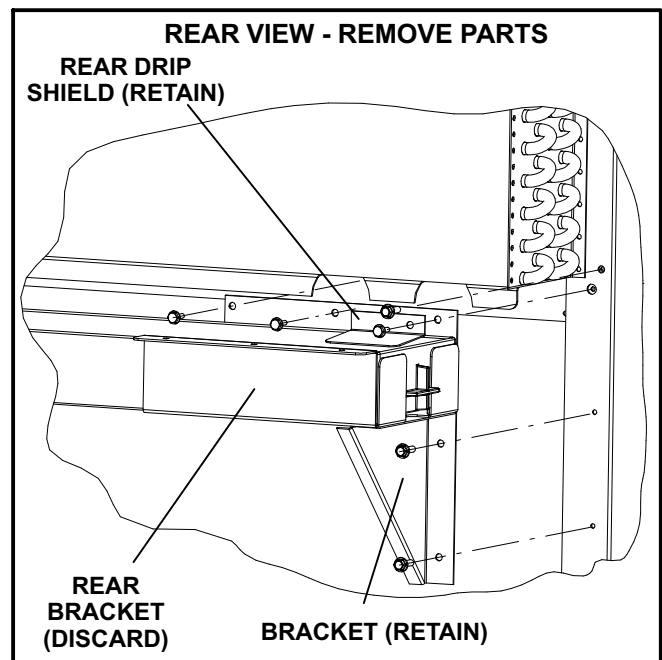

FIGURE 2
- 2- Remove three drip shields and three brackets as shown in figure 2 and 3. Discard or retain parts as shown.